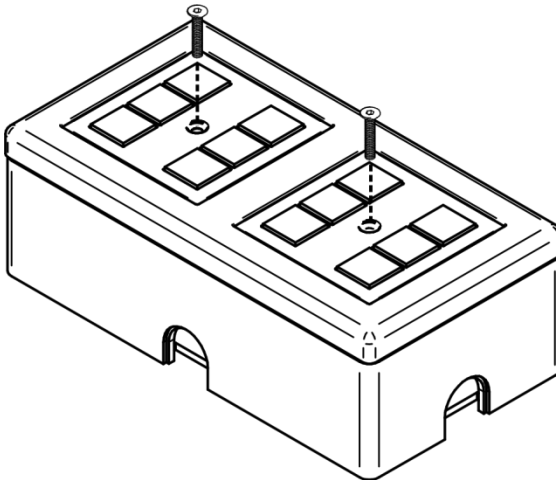

Figure 12: Securing the Frame and Faceplates
8. Tighten the two M3x16 screws with Allen key (supplied) to fix the faceplates and the frame to the housing (see Figure 12).